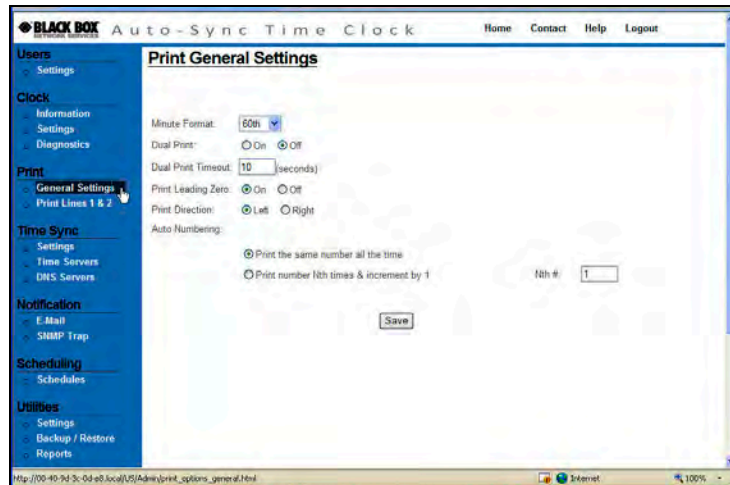

Figure 4-6. Print General Settings.
1. Click on the **General Settings** link under Print, and the **Print General Settings** screen will appear (see *Figure 4-6*).